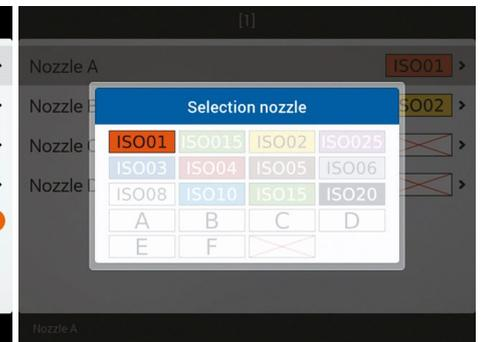

Fig. 49
- Select one of the suggested nozzles (Fig. 49): if a nozzle is NOT in use, disable it by selecting .